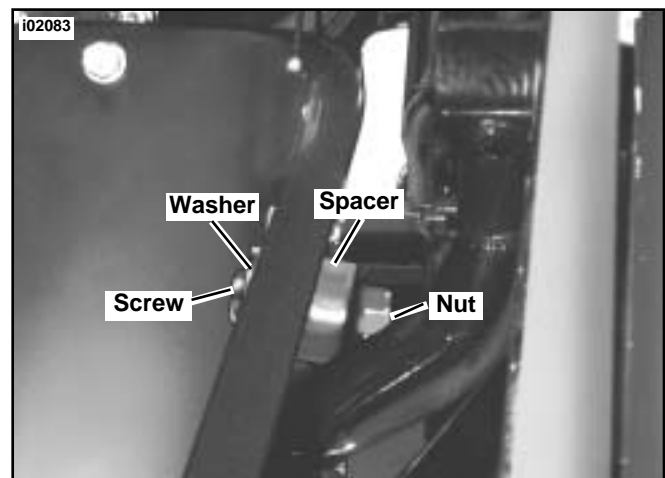

Figure 10. Secure Saddlebag to Support
22. See Figure 10. Install screw (Part Number 4214) and washer (Part Number 6213) from inside saddlebag, through spacer and support, then install nut (Part Number 7739). Finger tighten.